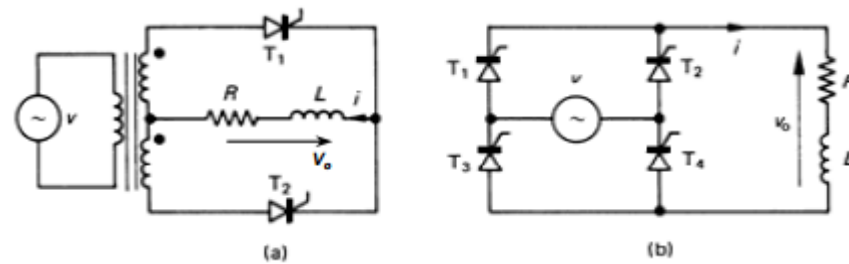

Fig. 5.3 Full-wave controlled converter: (a) and (b) circuit diagrams
Fig. 5.3 Full-wave controlled converter: (c) discontinuous load current; (d) verge of continuous load current, when  $\alpha = \phi$ ; and (e) continuous load current.
- Load voltage and current waveforms are shown in figure 5.3 parts c, d, and e for three different phase control angle conditions.